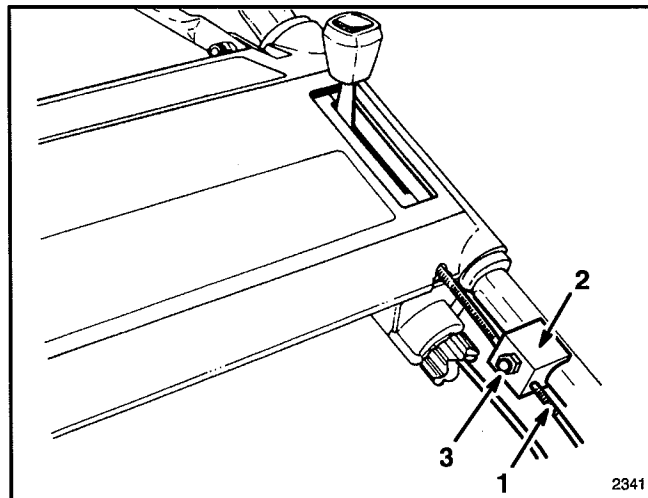

Figure 22
3. ADJUST CABLE (Fig. 22) – Loosen the nut on the cable bracket. Insert a 1/8" object between the brake control bar and handle. Pull down on the cable conduit until all slack is removed from the wire. Then tighten the nut on cable bracket.